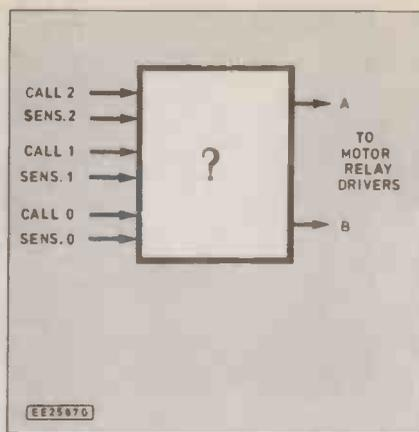

Fig. 7.5. Inputs and outputs for a three-floor model.
**T** We can just ignore it, for now. Now we can draw our "box" with labelled inputs and outputs (Fig. 7.5), and start to consider what we put in it. Then, we'll look at the mechanical features of the lift, and check that it works as expected. The sketch (Fig. 7.6) shows the main parts. Our kits are made of perspex, cemented to-